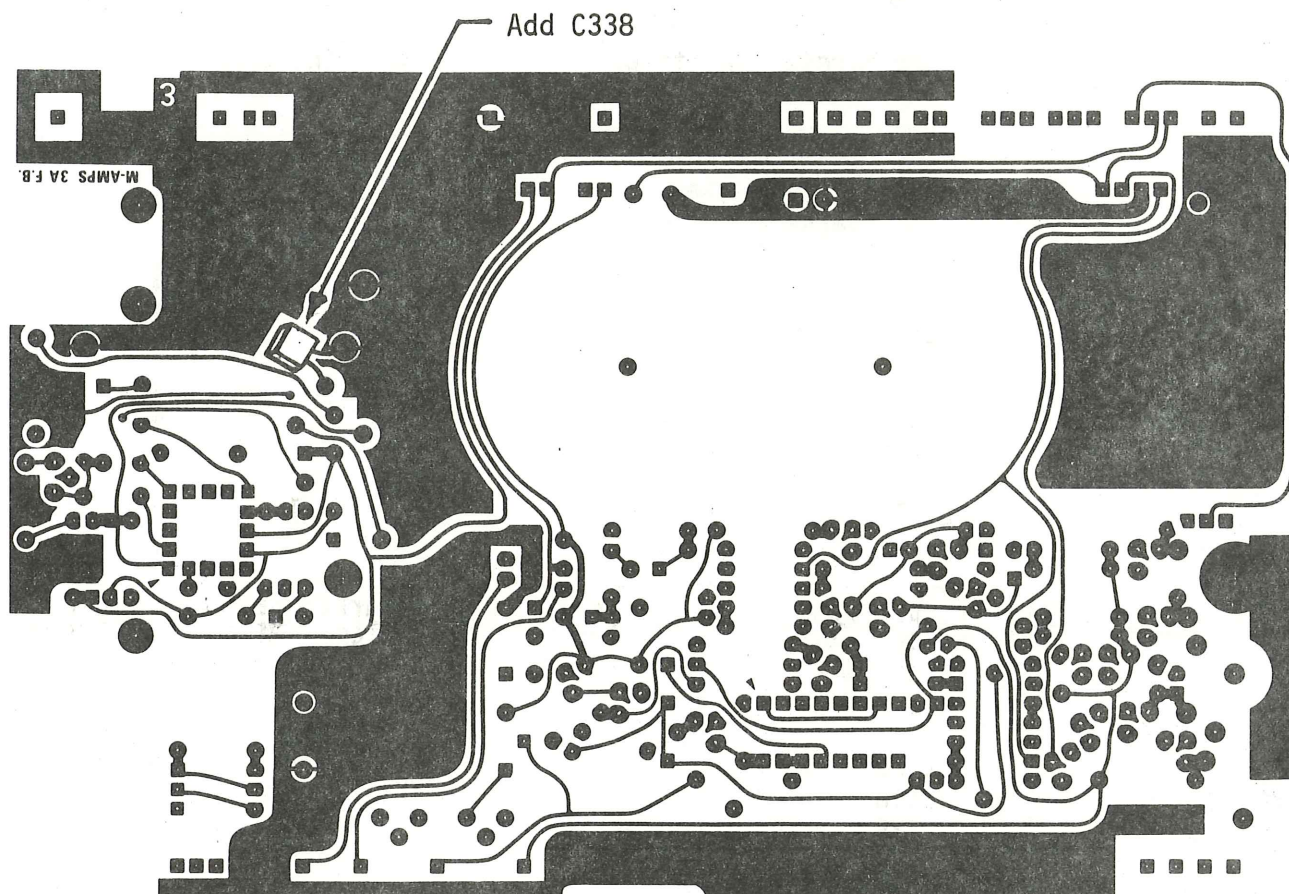

Figure 2. Solder Side of Output Amplifier Circuit Board (A4).
- () 12. Install C338, the 87pF capacitor from the kit, on the solder side of the Output Amplifier circuit board from ground to the junction of C325 and C326. Refer to Figure 2.